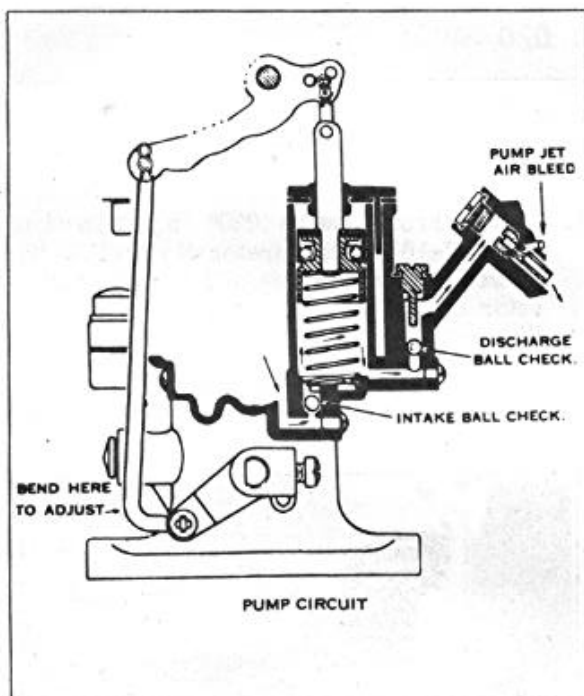

FIGURE 3
The WA-1 carburetor, Figure 3, incorporates a throttle operated accelerating pump which discharges additional fuel into the carburetor throat when the throttle is opened. The discharge is prolonged by the pressure of the pump and the restriction of the pump jet. This discharge allows time for the high speed circuit to furnish necessary fuel.
The amount of fuel admitted to the carburetor throat through the high speed circuit is controlled by a stepped and tapered metering rod. Figure 3.
3. Pump connector link should be in the lower hole (short stroke), Figure 3.
5. Adjust pump travel by bending throttle connecting link at lower angle, Figure 3. Pump connector link should be in the lower hole (short stroke), Figure 3.
5. Adjust pump travel by bending throttle connecting link at lower angle, Figure 3.